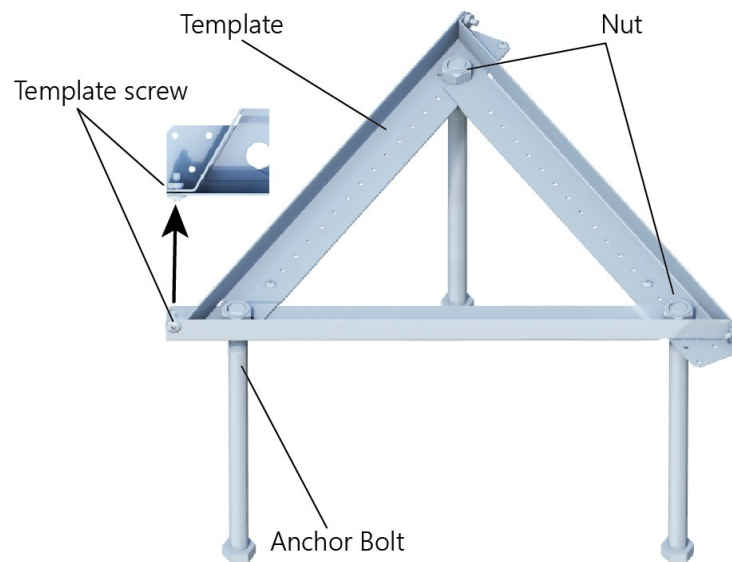

FIGURE 7-4. Template assembly
2. Assemble the template and anchor bolts as shown in FIGURE 7-4 (p. 12). Each template piece is secured to the next with a template screw.